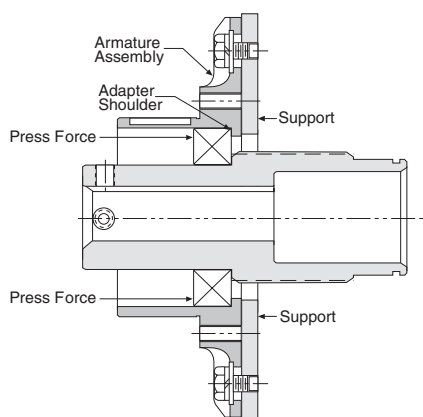

Figure 2
19. Press the hub and bearing into the Adapter Assembly until the outer race of the bearing locates against the shoulder of the adapter hub. Note that the **force is to be exerted on the outer race**. Support the armature face as shown in Figure 2.